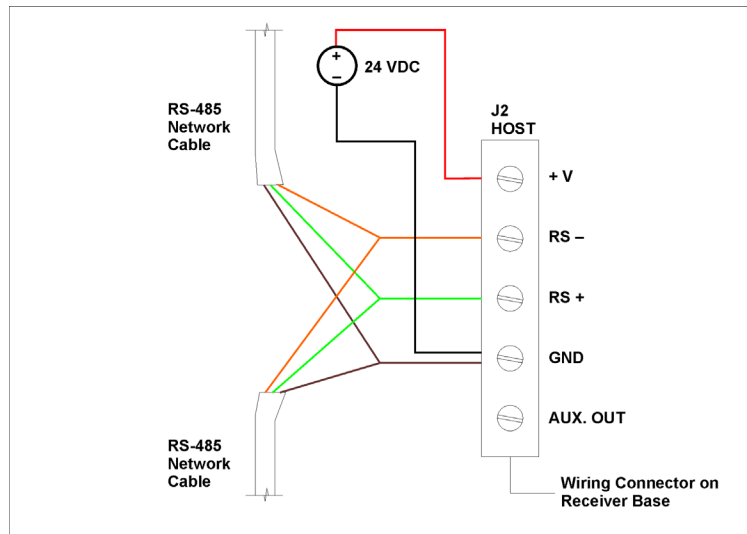

Figure 3-11: Receiver Wiring Diagram
- 3 Connect the RS-485 cable: (see Figure 3-11 on page 3-23):
- 4** Connect the 24 VDC power cable (see Figure 3-11 on page 3-23):